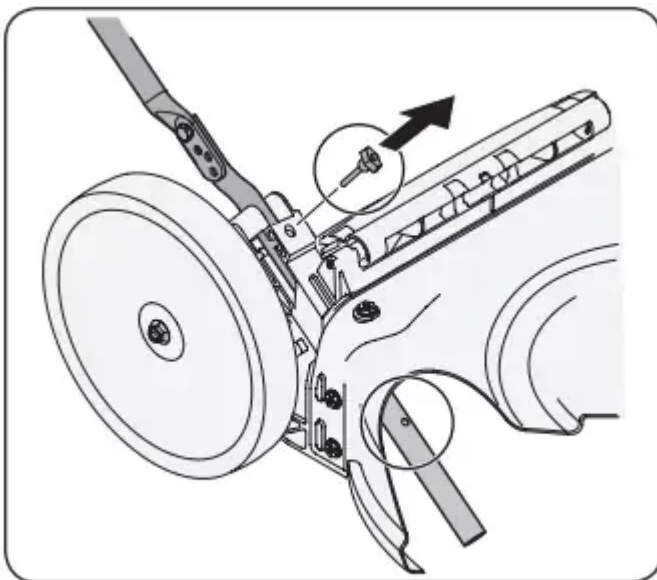
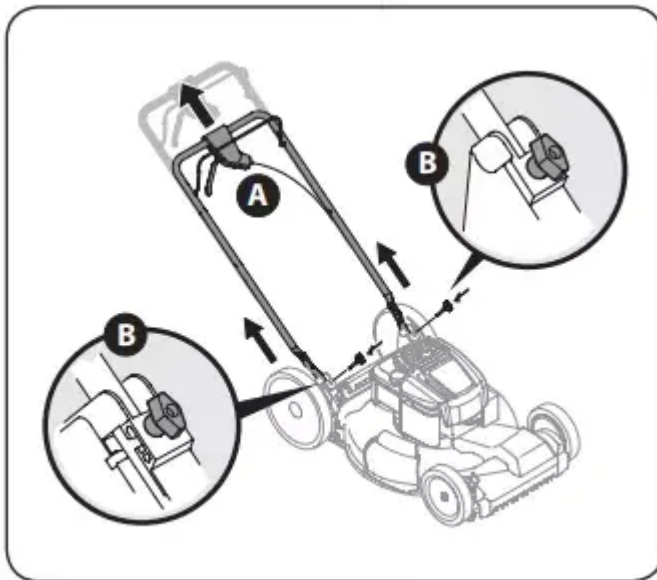

Figure 3-3
Figure 3-4
2. Remove the T-bolts from the handle brackets as shown in Fig. 3-3.
- a. Pull upward on the handle until holes in lower handle (shown in Fig. 3-3 deck cutaway) line up with holes in handle bracket. See Fig. 3-4.
b. Insert the T-bolts removed earlier through the handle brackets and lower handle and tighten securely to secure the handle in place. See Fig. 3-4.